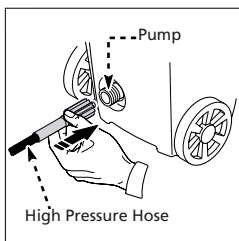

Fig. 2
- Screw the high pressure hose (clockwise) on the back of the unit at the bottom (Fig. 2). The end of the hose must be inserted into the water outlet far enough so the collar can thread onto the outlet threads until hand tight. Do not use pliers or vice grips to tighten. If it takes fewer than six or so turns you have not properly tightened the high pressure hose fitting. It is easier to position the power washer in front of you to ensure that the threads are started correctly. Failure to properly tighten the high pressure hose will result in the hose slipping or popping off immediately upon turning the unit on. Do not worry about damage if this occurs - just reinstall and take extra care at screwing on the high pressure hose fitting.